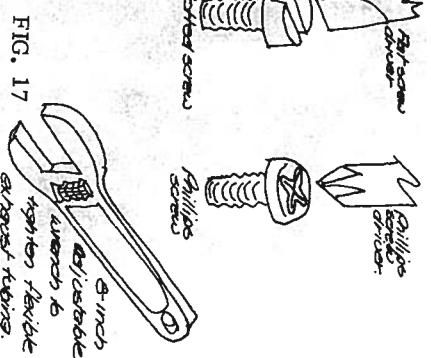

FIG. 17
- 15. RIDING - Pedal a few times when leaving a standing start to assist engine and gain momentum. (Experienced riders operate as a team with the engine, they pedal lightly on grades, in wind, to help maintain desired speed when engine power may be less than adequate.) (figure 17).